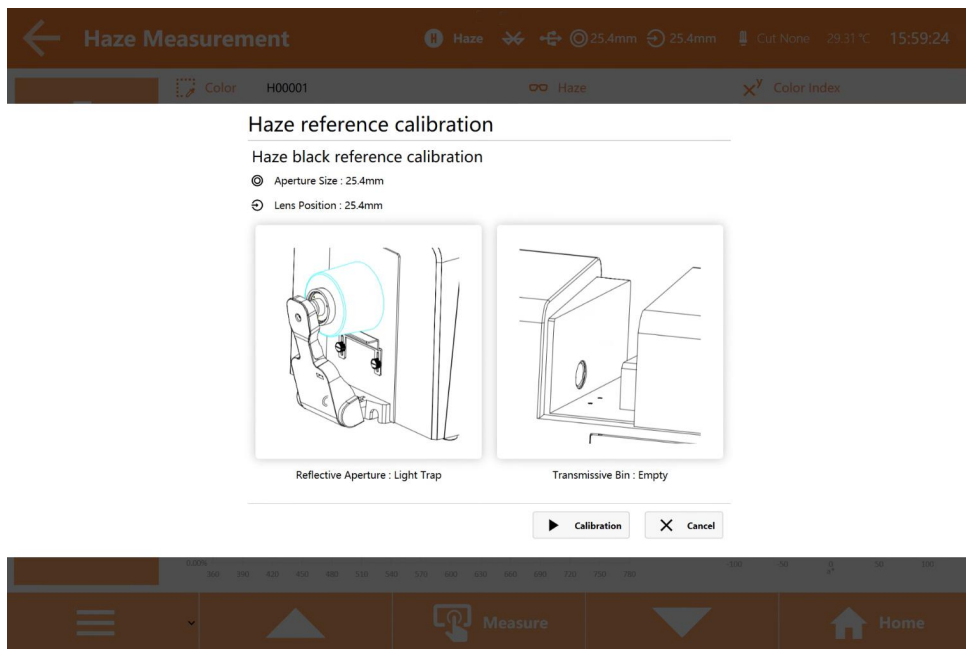

Figure 10 Haze Black Calibration
2. Click “Measure” in main menu, enter haze measurement page, in the upper left corner, click haze calibration to start haze black calibration page (Figure 10), follow the instruction, put black cavity on reflective aperture, clear transmission house, click “calibration” to start.